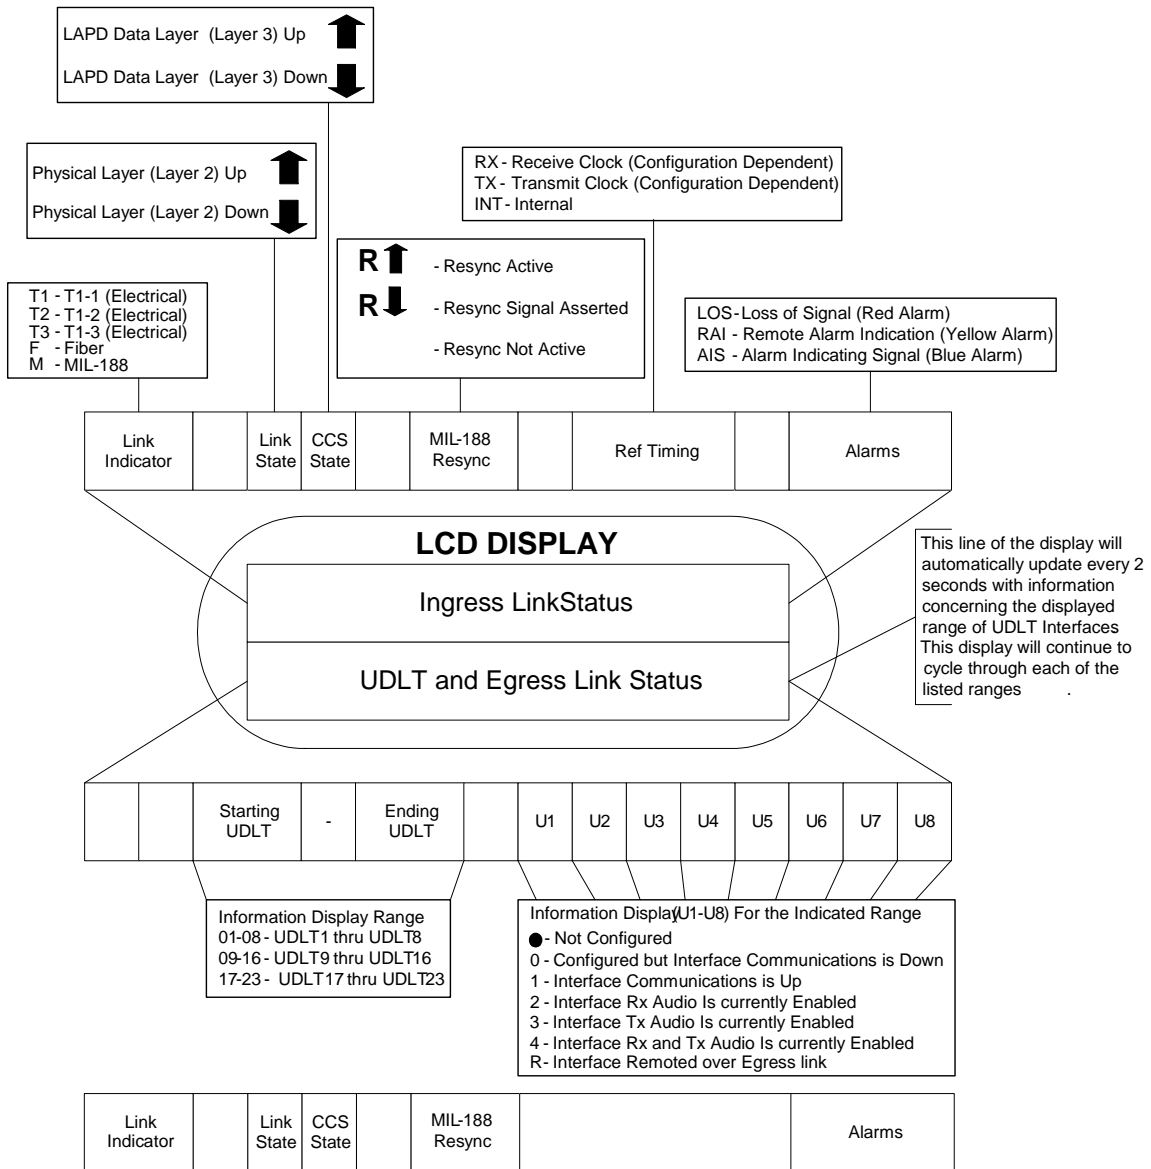

Figure 13: UMUX-III Status Display
The front panel display provides real time operational status for the UMUX-III. Figure 13 shows the Operational Status screen of the UMUX-III LCD screen. The bottom line of the displays the operational status of the 23 UDLT interfaces as indicated in the figure. The status of each UDLT interface is given identifying the interface as being configured “0” or not configured “.” for use in the switch database, an indication that the UDLT link is up “1” and its current RX/TX audio connection. A “2” indicates that the RX audio (audio from phone to switch) is enabled, a “3” indicates that TX audio is enabled and a “4” indicates that both RX and TX audio are enabled. This line also displays the status of the Egress link, should one be defined. This display includes the (1) the Egress link’s configured mode; (2) the communications status of both the physical layer and the LAPD (Link Access Protocol on the D-channel) layer; and (3) the status of any detected alarms. The top line of the display provides the operational status of the Ingress interface. The operational status provided includes: (1) the unit’s configured mode; (2) the communications status of both the physical layer and the LAPD (Link Access Protocol on the D-channel) layer; (3) the state of the Resync signal; (4) the timing reference; and (5) the status of any detected alarms.
The UMUX-III provides extension status information to the user. The operational status is the normal top-level status as previously discussed and as shown in Figures 13, 14 or 15 above. The specific display will be dependent upon configuration of the unit and whether a critical fault has been detected.